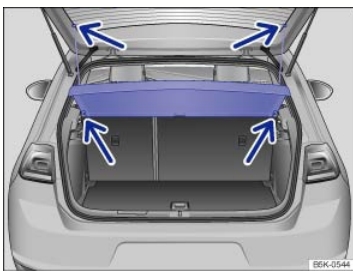

Fig. 179 In the luggage compartment: Installing and removing the luggage compartment cover.
- Unhook the supporting cords from each side of the trunk lid ⇒ Fig. 179 (top arrows).
- Push the luggage compartment cover upward from below ⇒ Fig. 179 (bottom arrows) until it releases from the side brackets.
- Press the luggage compartment cover into the side brackets from above ⇒ Fig. 179 (bottom arrows).
- Hook the supporting cords onto the trunk lid ⇒ Fig. 179 (top arrows).